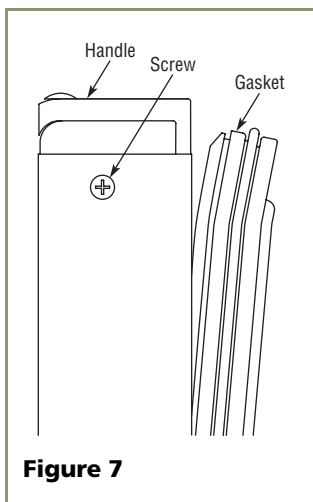

Figure 7
1. Open drawer. Pull drawer gasket out of groove (top edge of drawer only). Start in the middle and pull outward, moving toward the edge (see **Figure 7**). This may take some force.